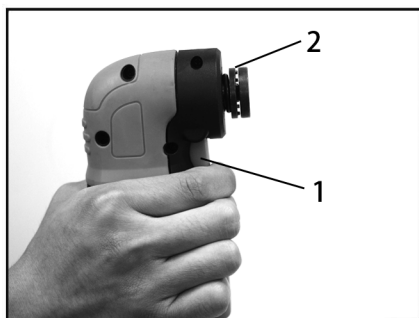
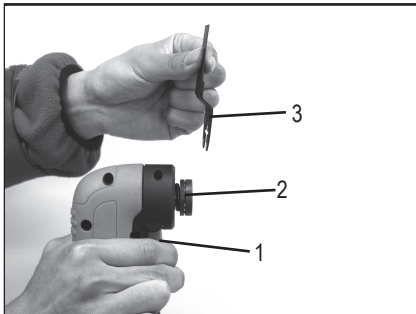
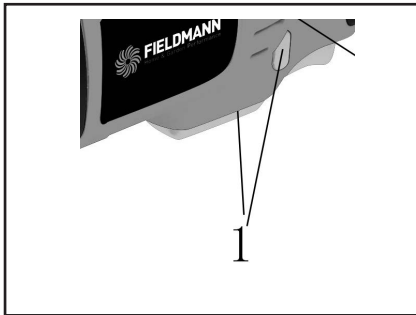

Fig. 1
Fig. 2
Fig. 5
1. Press the accessory holder (1). Fig. 1
2. Place the blade (3) on the accessory holder (Fig. 2)
- ✿ To turn the tool ON, slide the ON/OFF switch (1) toward the front of the tool (Fig. 5).
1. Install the plunge cutting wood saw blade for wood in the tool (Fig. 2).
3. Place the tool with the saw blade (3) lightly touching the surface of the tile and the cutting teeth NOT touching the surface to be cut.
4. Set the speed to the fastest speed and turn to tool ON (Fig. 5 & 6)
1. Install the plunge cutting saw blade for wood in the tool (Fig. 2)
3. Place the saw blade (2) near the floor surface in the middle of one of the cutting lines.
4. Set the tool speed at a medium speed and turn the tool ON (Fig. 5 & 6)
1. Install the half circle saw blade for wood & drywall in the tool (Fig.2)
2. Place the outlet box on the drywall and use a soft lead pencil to trace the required rectangular hole (1) on the drywall
3. Place the corner edge of the saw blade (2) near the drywall in the middle of one of the cutting lines.
4. Set the speed to the highest speed and turn the tool ON (Fig. 5 & 6)
1. Install the sanding pad on the multi-tool as outlined in Fig. 2
4. Turn the switch ON as outlined in Fig. 5
1. Install the scraper blade on the multi-tool as outlined in Fig. 2, Fig. 1 & 2.
2. Set the speed control wheel to #4 and turn the switch ON as outlined in Fig. 5 & 6.